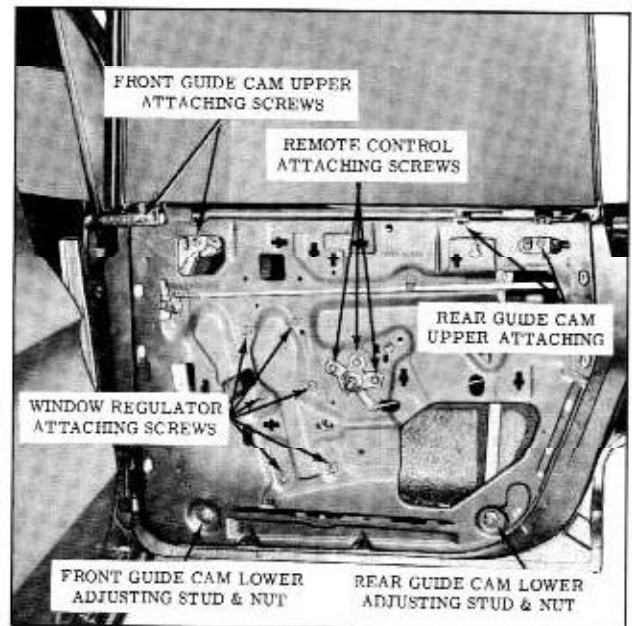

Fig. 17-48 Rear Door Assembly ("39" Style)
2. Remove remote control attaching screws and remove remote control from connecting rod. (Fig. 17-48)
- Remove regulator attaching screws, disengage balance arm from inner panel cam and remove regulator assembly through access hole. (Fig. 17-48)
2. Through inner panel access hole remove front guide cam upper attaching screw(s) and front guide cam lower adjusting stud and nut. (Fig. 17-48)
2. Raise door window. Through inner panel access hole remove front guide cam upper attaching screw. (Fig. 17-48)
2. Remove rear cam upper attaching screws and lower adjusting stud and nut. (Fig. 17-48)